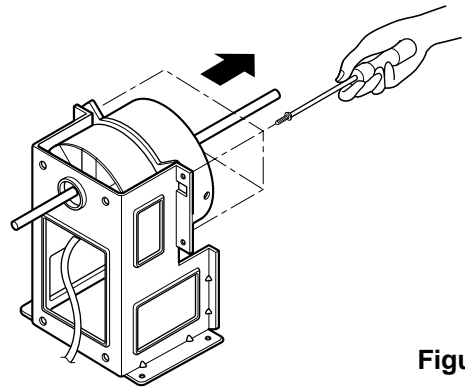

Figure 25
4. Remove the 4 screws that fasten the motor from the air guide. (See Figure 25)
6. Re-install the components by referring to the removal procedure, above. (See Figure 25)